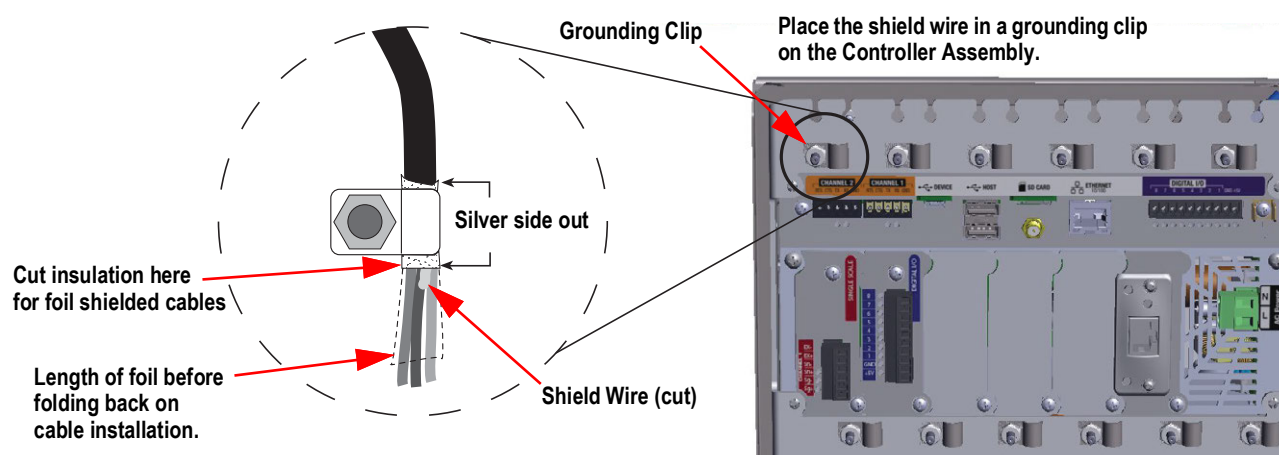

Figure 2-28. 1280 Ground Clamp and Stud Shown on Panel Mount
3. Cut and fold shield wire and foil insulation as in Figure 2-28.